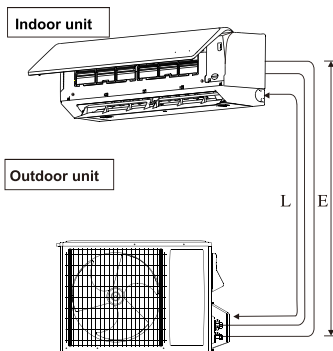
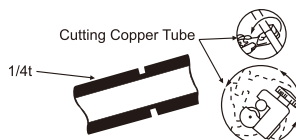

Fig 1.
Fig 2.
3. Wrap the inter-unit wire, refrigerant pipes, and drain hose together with insulation tape. (see Fig 1)
4. Bottom or side piping (see Fig 2)
- Cut the pipe as straight as possible (See Fig 1.). Make sure to use a deburring tool to remove any burrs. Hold the pipe with opening facing down to prevent metal chips from entering the pipe (See Fig2.).